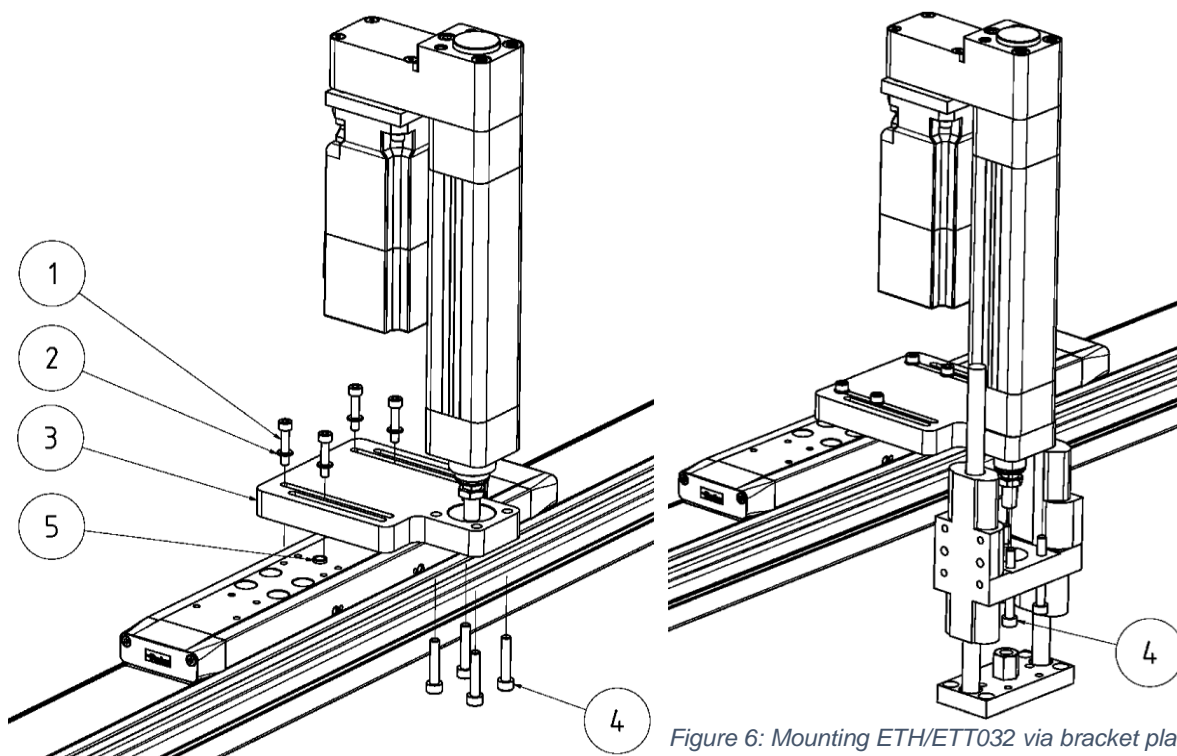

Figure 6: Mounting ETH/ETT032 via bracket plate
- ◆ Remove both centering sleeves on the carriage of the linear actuator (please refer to Figure 6: Pos. 5).
- ◆ Fix the bracket plate with the screws supplied (see Figure 6: Pos. 1) on the carriage. Position screws only slightly.
- ◆ Adjust the desired excess of the bracket plate to the linear axis and crosswise tighten the screws (see Figure 6: Pos. 1) to the respective tightening torque (see Table 6).
- ◆ Fix the ETH/ETT cylinder crosswise with the screws supplied (see Figure 6: Pos. 4) and the required tightening torque (see Table 6).
Tightening torque bracket plate (please refer to Figure 6: Pos. 1)
Tightening torque ETH/ETT (please refer to Figure 6: Pos. 4)